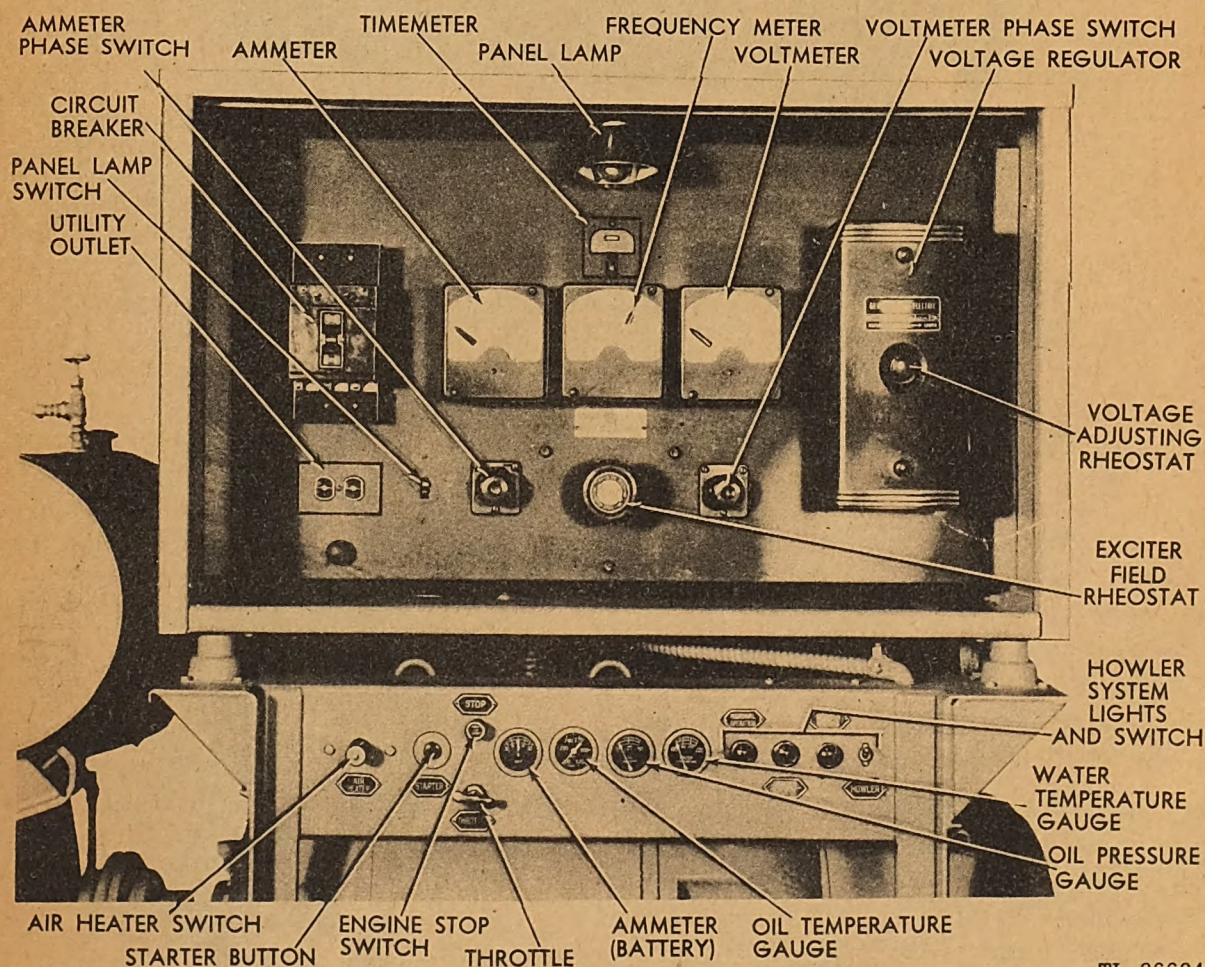

Fig. 32. Alternator and Engine Control Panels
(2) Be sure that the circuit breaker is in the OFF position.
(3) Turn the exciter field rheostat all the way to the left, counterclockwise. (See Figure 32.)
**25. Steps for Preparing Alternator and Exciter and Control Panel for Operation.** (1) Remove the exciter cover and examine the interior of both the generator and the exciter for loose, foreign objects, such as bolts, nuts, wire, or small tools.
(8) Note the condition of the insulation. If the windings are wet or even damp, they should be dried before the power unit can be operated with a full load on the generator. Dry out the windings after initial start by operating the power unit with no more than one-fourth (25 amperes) normal load on the generator for at least two hours or until the windings are dry. Keep all covers on the exciter and the generator while operating the power unit.
**26. Starting Engine.** (1) Refer to Figure 32. Make sure that the breaker is in OFF position. Push the engine stop button all the way in and
(3) As soon as the engine starts running, check the oil pressure gauge. For normal operation the oil pressure gauge should read 20 to 35 pounds. Do not become alarmed if the pressure rises beyond 35 pounds if the engine is cool.
(4) Pull the howler switch out to put the howler in operation. Green glows if the warning system is working. (See Figure 32.)
(5) Run the engine without load at half speed until the water temperature rises to 140 degrees Fahrenheit.
**27. Applying Load.** (1) Push the throttle control all the way in. This brings the engine up to the required speed.